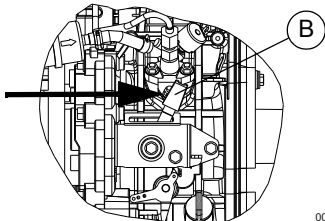

Figure 3-3. Engine Control Lever
5. See Figure 3-3. Switch engine control lever to Run (B).
To re-start engine, the engine control lever must be moved to Run (B). See Figure 3-3.